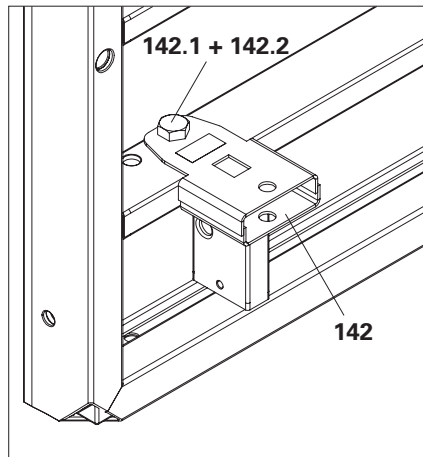

Fig. C1.04
2. Fit 2x Clamp Adapter MX/TR-SRU (**142**) onto the formwork using bolt ISO 4014 M24 x 80-8.8 (**142.1**) and nuts ISO 4032 M24-8 (**142.2**). (Fig. C1.04)